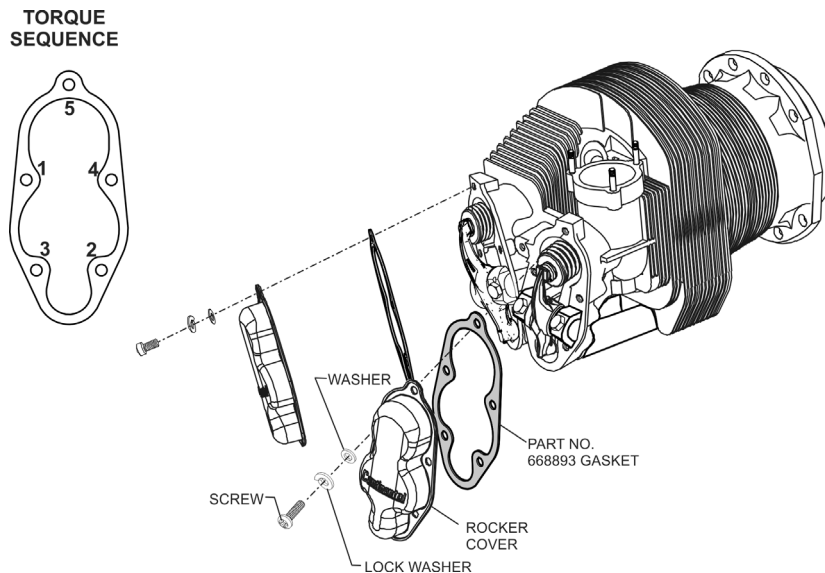

Figure 2. Rocker Cover Installation
3. Sparingly apply a thin bead of Continental Part No. 658517 (Loctite® 243) across the rocker cover screw threads according to the manufacturer's instructions. Secure each rocker cover with five screws and torque the screws in an alternating pattern (see Figure 2):